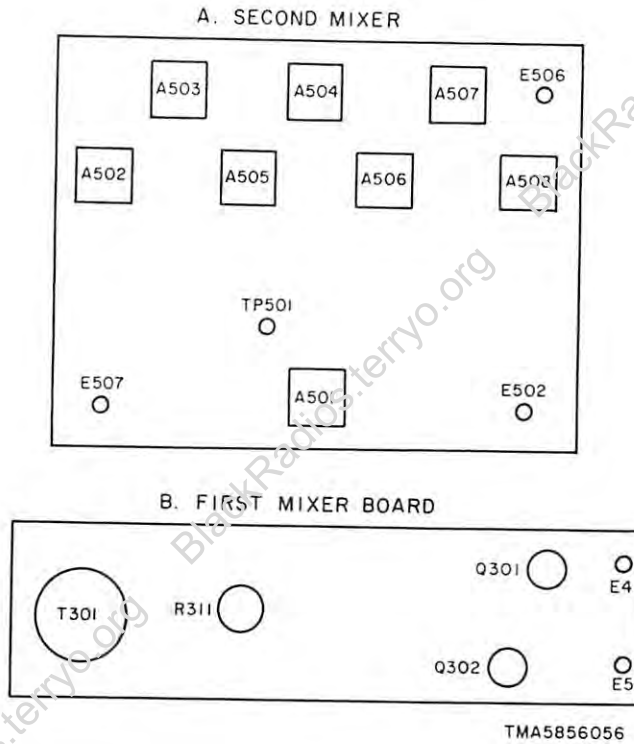

FIGURE 7-4 1ST AND 2ND MIXER ALIGNMENT PARTS LOCATION
7-4. 2ND MIXER Alignment (fig. 7-4)
(3) Connect the RF voltmeter to TP501 (fig. 7-4)
(4) Connect the signal generator to E803 .
(5) Adjust the signal generator for a frequency of 37.5 MHz with an output of 1200-uV .
(6) Adjust A501 for maximum on the RF voltmeter . The reading should be approximately 30 millivolts .
(7) Connect the RF voltmeter to E506 .
(8) Connect the signal generator to the 2-3 MHz IN jack .
(9) Adjust the signal generator to 3.66 MHz , and tune A503 for a minimum indication on the RF voltmeter .
(10) Adjust the signal generator for a frequency of 1.6 MHz , and adjust A504 for a minimum indication on the RF voltmeter .
(4) Remove 1-MHz crystal Y601).
(5) Connect the signal generator to E801.
(6) Connect the RF voltmeter to T501 (fig. 7-4).
(7) Adjust the signal generator for a frequency of 37.5 MHz with an output that will provide a usable indication on the RF voltmeter.
7-7. 1ST MIXER and 40 MHz BPF Alignment (fig. 7-4)
- (3) Connect signal generator to J112, and adjust for a frequency of 20 MHz.
- (4) Connect the RF voltmeter to E507 (fig. 7-4).
- (5) Adjust signal generator output until a usable reading is obtained on the RF voltmeter.